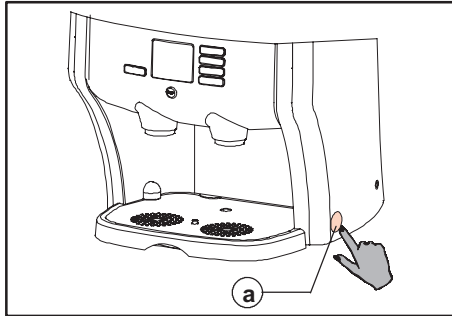

Fig. 35 Power switch
1. Switch the dispenser off by putting the power switch in the off position (fig. 35 a). The display shows: "OFF".
15. Switch the dispenser on by putting the power switch in the on position (fig. 35 a)